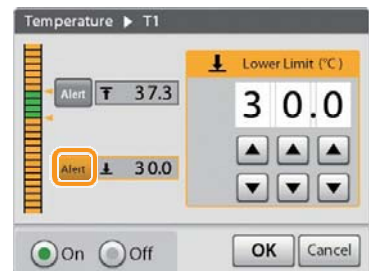

Figure 3-24
6. Tap [Alert] of the lower limit. (Figure 3-24)